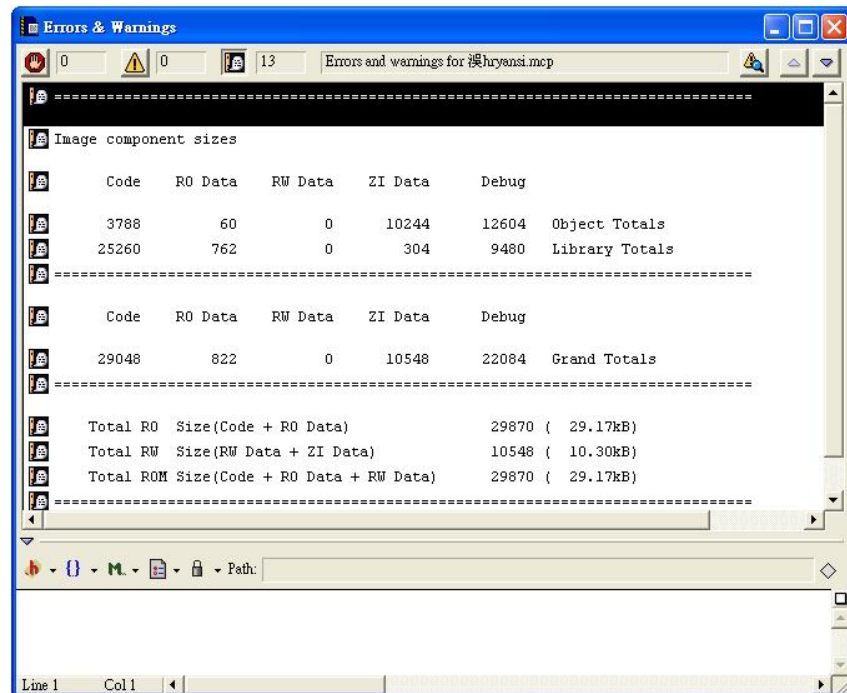

Figure 22. Show Code and Data Size by using -info totals.
- 1.2 After finishing compiling and linking, the **Errors and Warnings window** would appear, as shown in Figure 22.